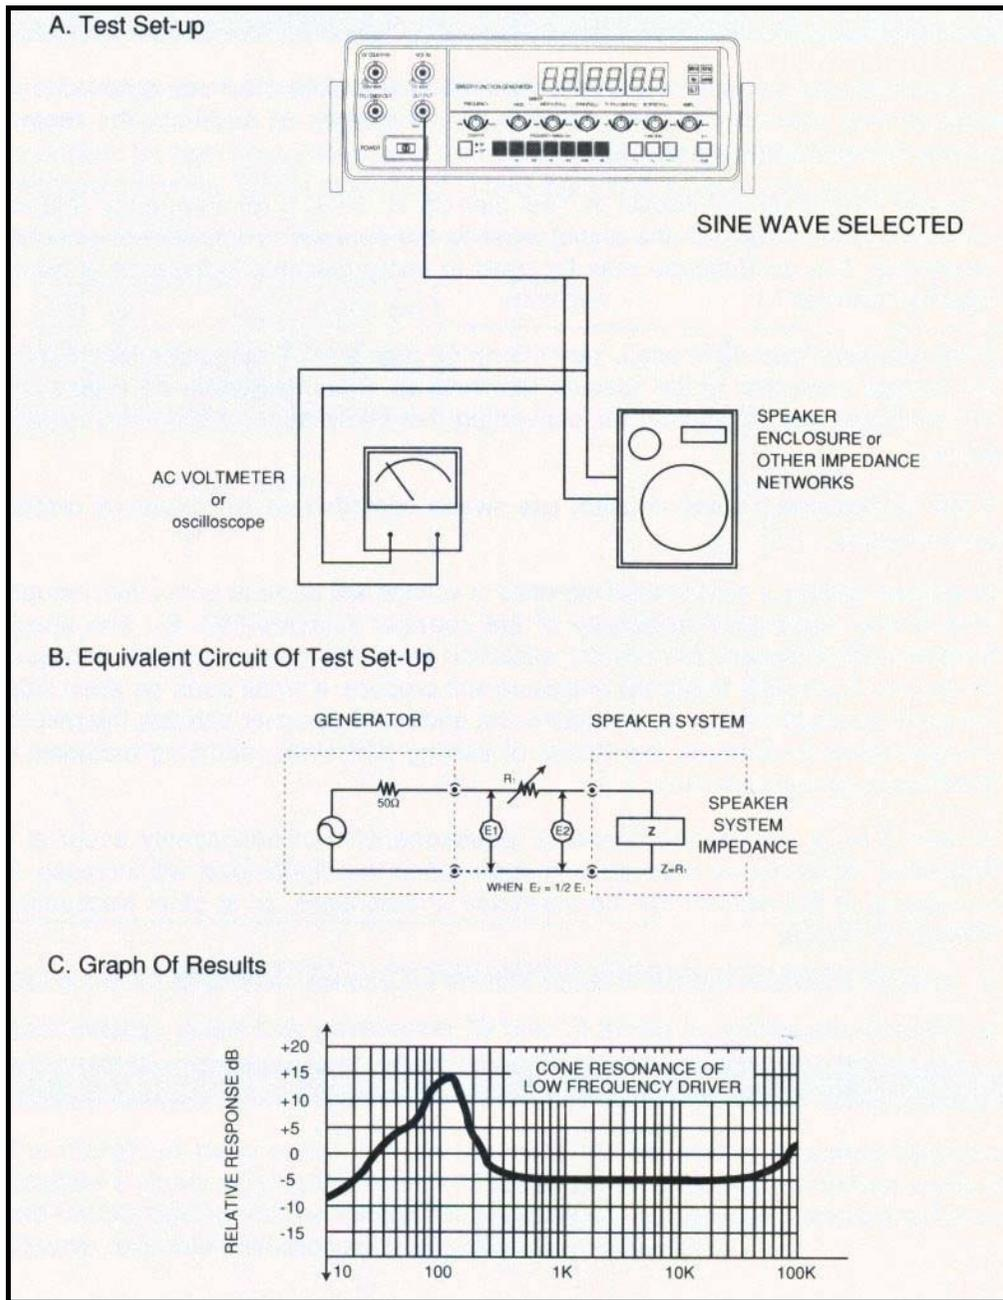

Fig. 7-3: Testing speaker systems and impedance networks
4. At each frequency checkpoint, the waveform obtained at the amplifier output provided information regarding amplifier performance with respect to the frequency of square wave input. Fig. 7-3 indicates the possible waveforms obtained at the amplifier output. Square waves evaluation is not practical for narrow-band amplifiers. The restricted bandwidth of the amplifier cannot reproduce all frequency components of the square wave in proper phase and amplitude relationships.
1. Connect equipment as shown in test set-up in Fig. 7-3 for frequency response measurement except that the signal input to the speaker or impedance network is monitored. The oscilloscope may be used to verify that this instrument is not in a clipping condition.
4. In speaker testing, a pronounced increase of voltage will occur at some low frequency. This is the resonance frequency of the speaker systems (Fig. 7-3). The speaker enclosure will modify the results obtained from the same speaker without an enclosure. A properly designed enclosure will produce a small peak on each side of the peak obtained without an enclosure. The enclosure designer can use the response characteristics to evaluate the effects of varying port sizes, damping materials and other basic enclosure factors.
- a) Connect a variable resistor in series with the impedance network as shown in Fig. 7-3.